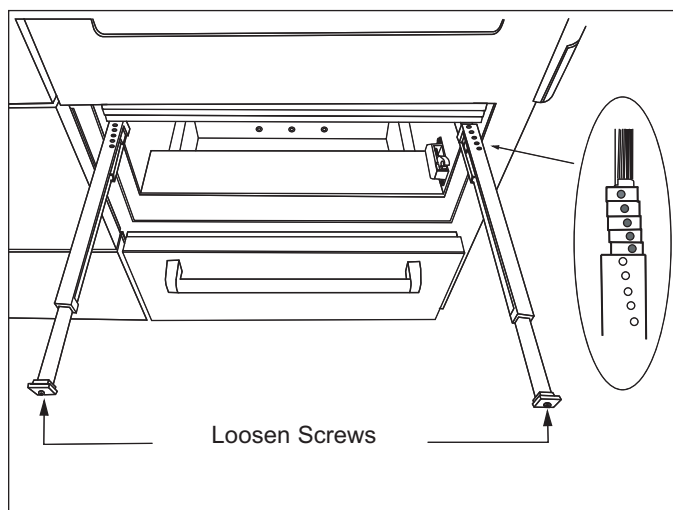

Figure 2-19. Horizontal Drawer Adjustment
1. Loosen screws on the front two slide assemblies. (See Figure 2-19)
2. Move adjust blocks to desired location and tighten screws. (See Figure 2-19).
4. Move the block forward to shift drawer to the right, and back to move to the left. Each position will move the drawer .030" (.8 mm) (See Figure 2-19).
5. Snap the block over the pins located on the rear adjuster. (See Figure 2-19)